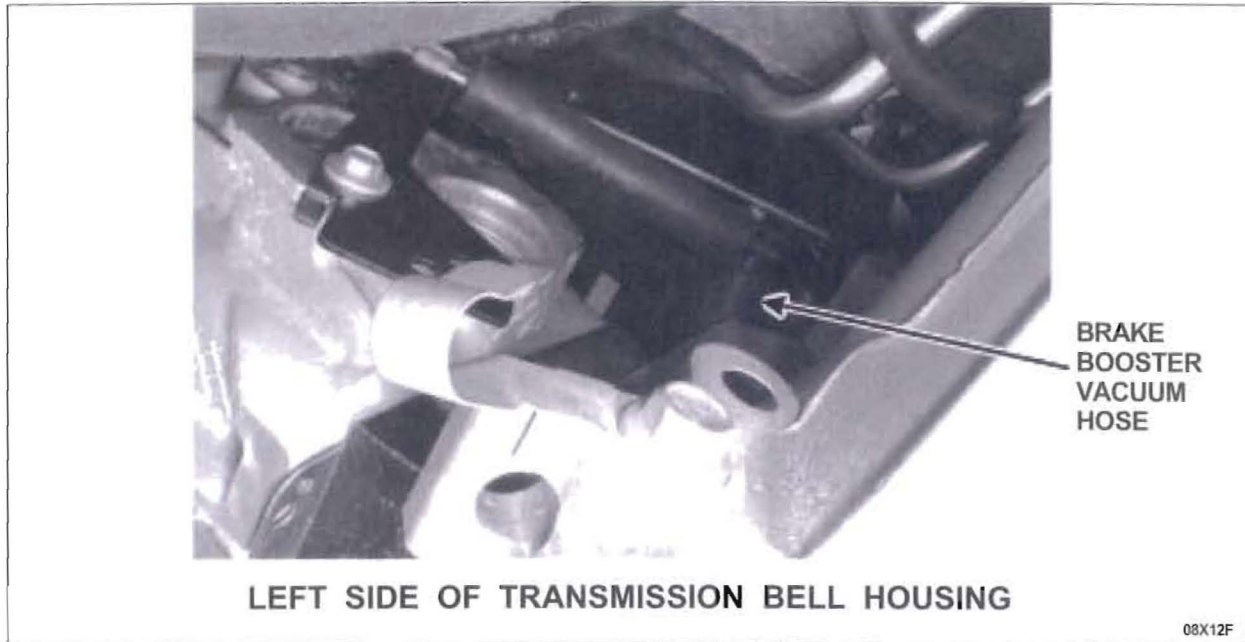
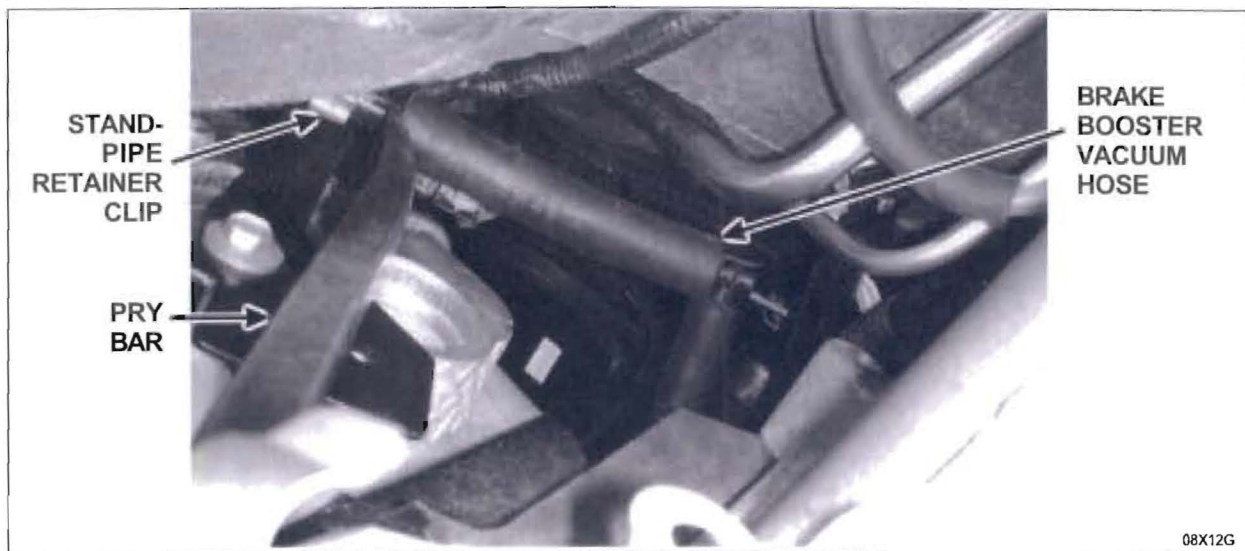

FIGURE 6
FIGURE 7
CAUTION: To avoid breaking the intake manifold fitting, do not use a pry bar to remove the short end of the brake booster vacuum hose from the intake manifold. See Figure 6. A pry bar may be used to remove the long end of the brake booster vacuum hose that is attached to the brake booster vacuum stand-pipe. See Figure 7.
7. Remove the brake booster vacuum hose from the intake manifold. See Figure 6.
8. Using a pry bar or other suitable tool, pry the brake booster vacuum hose off the brake booster vacuum stand-pipe. See Figure 7.